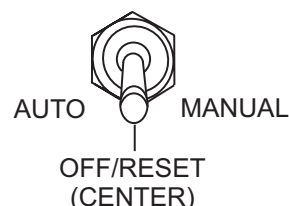

Figure 84. Auto Off/Reset Manual Switch (Off/Reset Position)
- Place the Auto Start/Stop Switch (Figure 84), to the "Off /Reset" position.